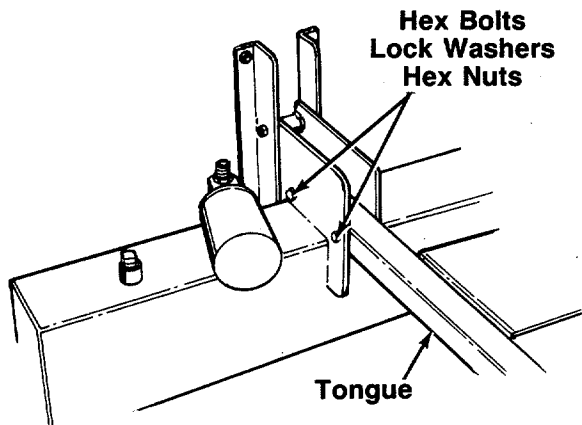

FIGURE 3.
3. Remove the two hex bolts, lock washers and hex nuts on the front of the reservoir tank. Two 9/16" wrenches are required. Place the tongue in position, and secure with hardware just removed. See figure 3.